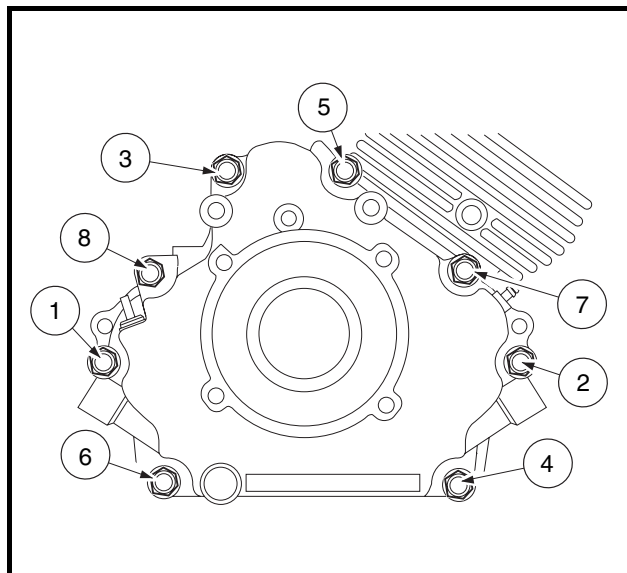

Figure 13-6 Crankcase Cover Installation
3. Install and finger tighten evenly the eight cover mounting bolts (**Figure 13-6, Page 13-7**).
4. Tighten the cover mounting bolts in two steps. First, in the sequence shown, tighten all eight bolts to approximately 130 in-lb (14 N·m). Then, repeating the sequence, tighten them to 250 in-lb (28.2 N·m) (**Figure 13-6, Page 13-7**).